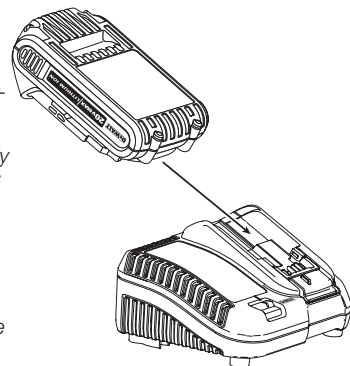

Fig. 3
## Charging a Battery (Fig. 3)
1. Plug the charger into a FIG. 3 appropriate outlet before inserting battery pack.